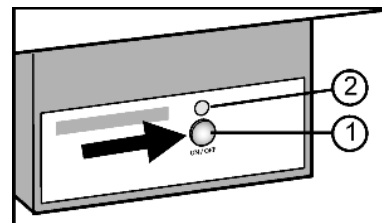

Fig. 34
- ▶ Press the On/Off button Fig. 34 (1) so that the LED Fig. 34 (2) shines.